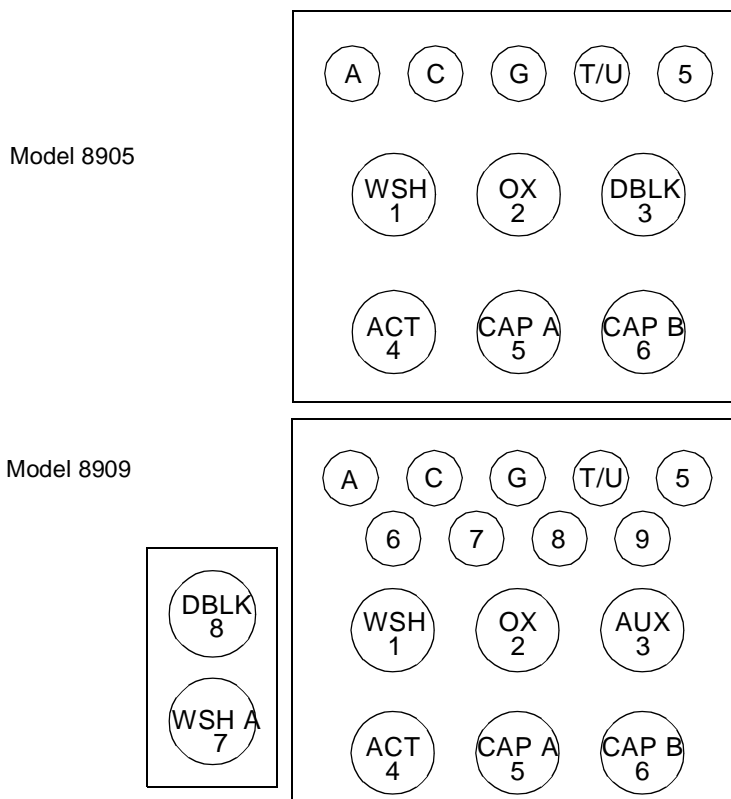

Figure 2-20 Models 8905 and 8909 Reagent Reservoir Positions
The contents of the Reagent Kits for the Models 8905 and 8909 are listed in Table 2-1. The positions of the reagent reservoirs in the Models 8905 and 8909 are shown in Figure 2-20.
2. Remove the bottle seal and cap from the **OX** bottle and screw it into the **number 2** position in the front row of the lower reagent rack in the reagent compartment (see Figure 2-20).
2. Remove the bottle seal and cap from the **ACT** bottle and screw it into the **number 4** position in the lower row of the reagent rack (see Figure 2-20).
2. Screw the amidite bottles into their respective (**A, C, G, T/U**) positions in the front row of the reagent rack (see Figure 2-20).
5. Screw the amidites into their respective (**5, 6, 7, 8, 9**) positions in the second row of the reagent rack (see Figure 2-20).